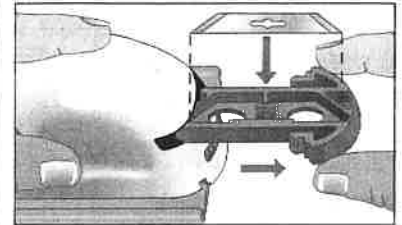
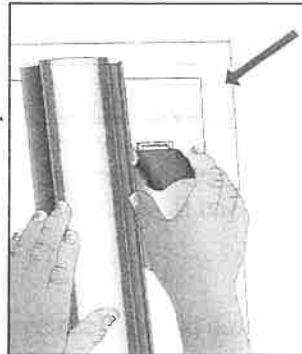

Fig. 2
Fig. 3
- 1 Loosen the Beam Adjustment Knob and set the Scaled Cutting Beam to the desired circle diameter. Read the Scale to the right of the Beam Block. Tighten the Beam Adjustment Knob (Fig. 2).
- 3 Position the centering pin on the desired location. Grip the Circle Cutter with one hand on the Hand Grip Ridges, the other hand on the Cutting Knob. Turn the Cutting Handle clockwise in a continuous motion (Fig. 3) The Board Depth Pin will lower the same depth as the blade progressing through the board. You will feel additional resistance as the blade reaches the scrap foam board under your work. Your circle cut is now complete.
OTE: Spare blades can be stored in the Blade Storage Drawer, located on the back side of the cutter. To open, squeeze the Blade Storage Drawer equally from left to the right with fingers placed on the drawer ridges (Fig. 2).
Position the Channel Rail on the material on the cut line. Hook the cutter onto the Channel Guide. With the blade positioned off the top edge of the material, push the Cutting Head downward. With the Cutting Head fully depressed, pull the cutter backwards along the Channel Rail and continue along the length of the material (Fig. 3).
- 3 Position the Channel Rail on the material. Hook the cutter on the Channel Guide. Align the tick marks located on the front and back of the cutter with the previously marked line (Fig. 2 & Fig. 3).